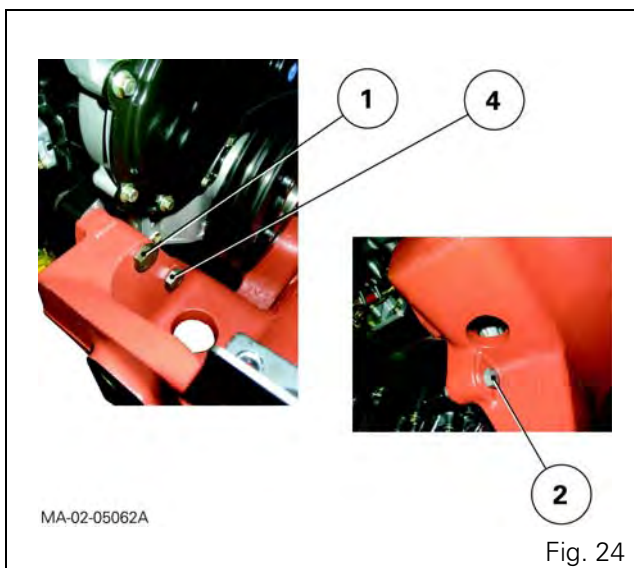
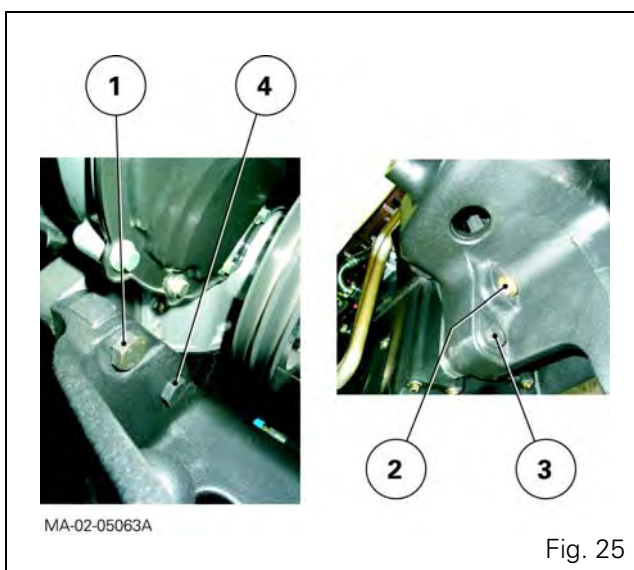

Fig. 24
Fig. 25
• Front frame and Perkins 65 to 95 hp engine (Fig. 24)
48. Fit screws (2), (4) and bolts (1), simultaneously taking out the guide studs.
49. Tighten opposing screws and bolts to a torque of 240 - 320 Nm in the following order: (2) (4) (1).
• Front frame and Perkins 105 hp engine (Fig. 25)